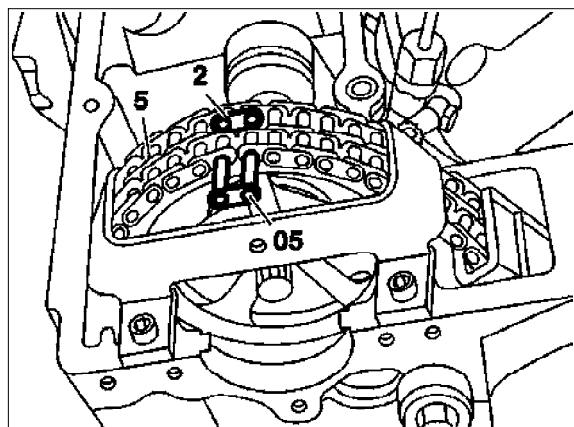

Figure 7
16. Connect the two timing chain ends (5, Figure 7) using the assembly link, Special Tool 602 589 02 63 00 (05, Figure 7) and also from the **new** timing chain insert the **new** connecting link center link plate (2, Figure 7).